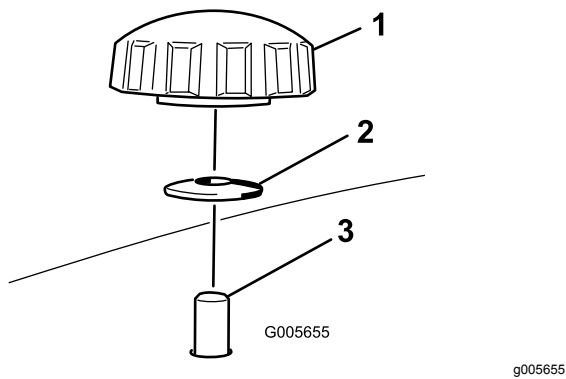
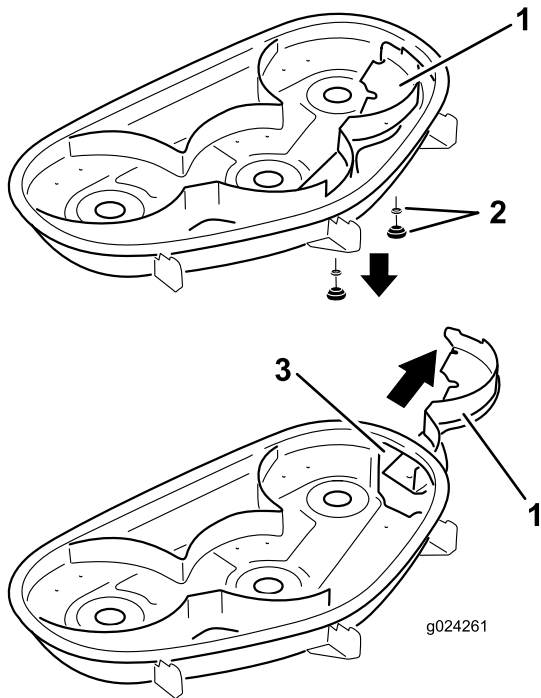

Figure 16
Figure 17
4. Remove the 2 knobs and curved washers that secure the right baffle to the mower (Figure 16).
5. Remove the right baffle and lower the grass deflector over the discharge opening as shown in Figure 16 and Figure 17.
5. Slide the right baffle under the mower deck, and secure it using 2 knobs and the curved washers (cupped side facing the mower) as shown in Figure 16 and Figure 17.